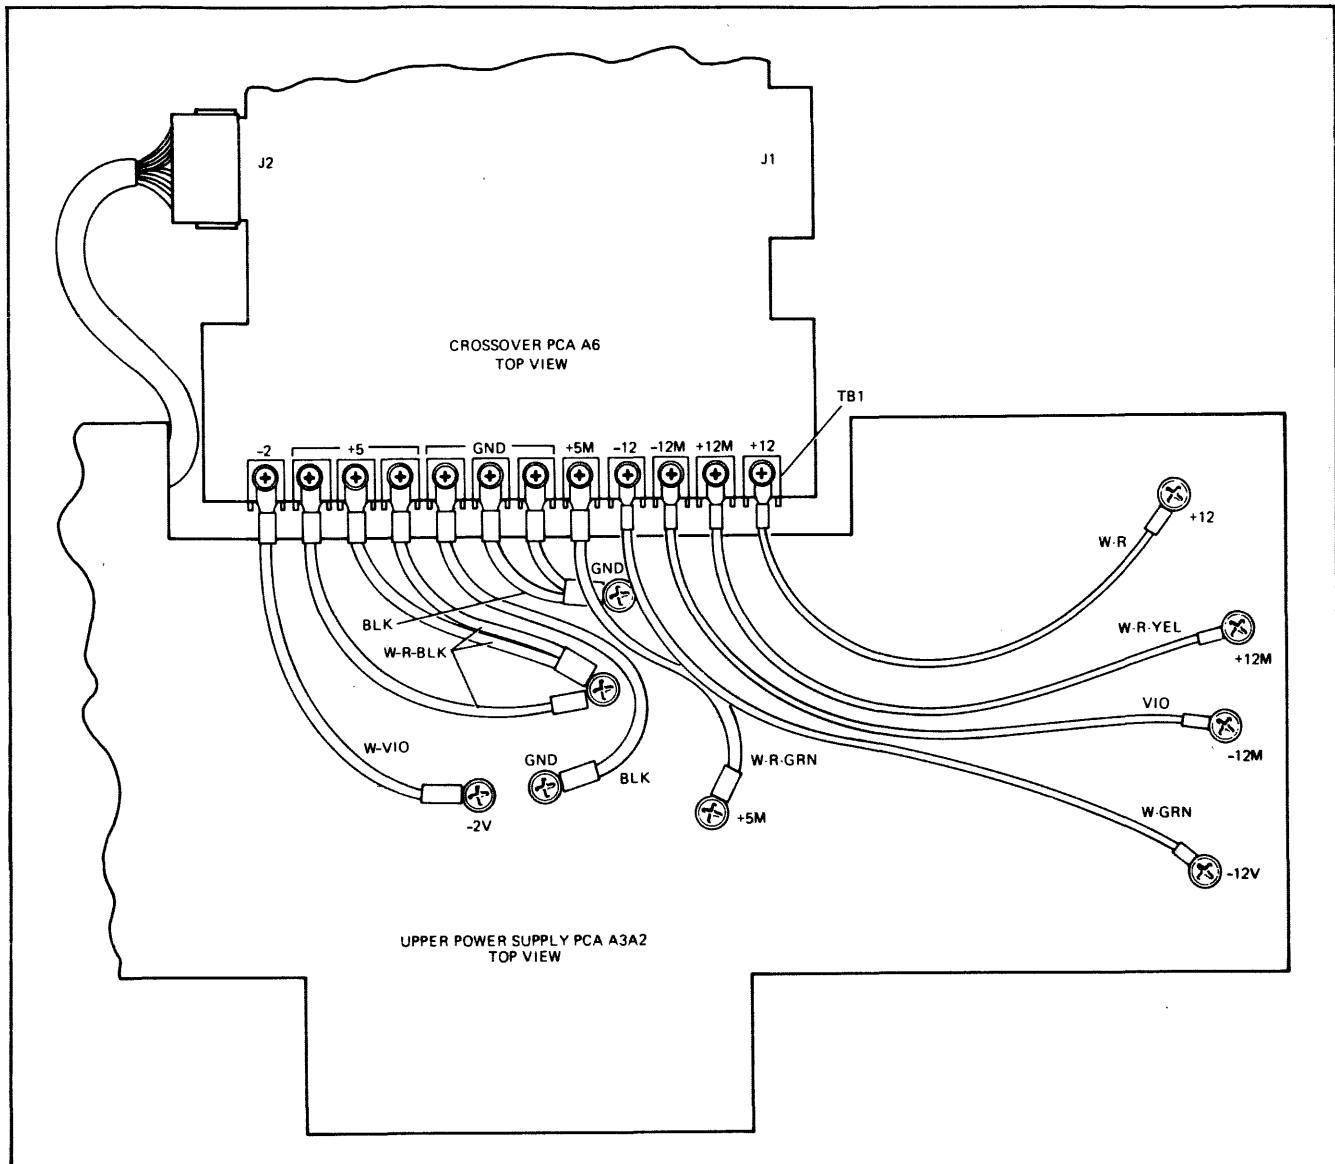

Figure 2-7. Crossover PCA Power Connections
- b. Remove processor top cover and disconnect DCPC cable assembly (if used) from edge connector J1. (See figure 2-7.) Disconnect power supply cable assembly from edge connector J2.